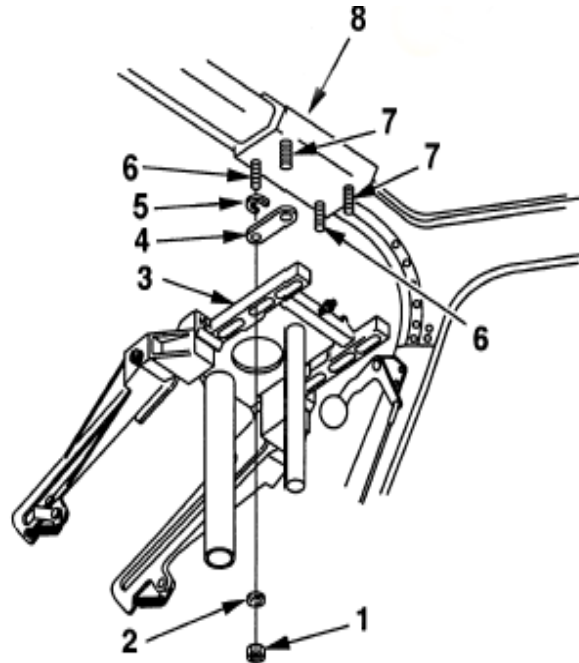

Figure 6
g. Removal of Pilot Display Unit (PDU) Mount Assembly. (See Figure 6.)